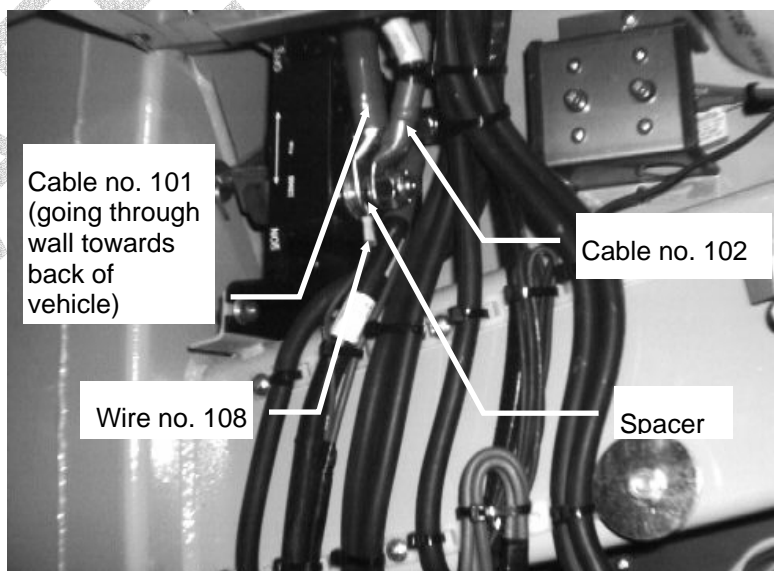

FIGURE 4
4. In the battery compartment, remove nut, spacer, cable no. 101, cable no. 102 and wire no. 108 from the cut-out switch (Fig. 4).
12. Route cable from battery booster post to cut-out switch (Fig. 4).
13. Remove nut, cable no. 102, spacer and wire no. 108 from cut-out switch (Fig. 4).